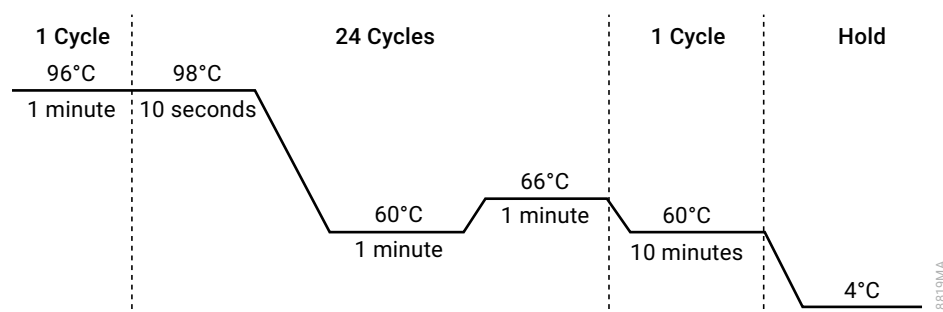

Figure 4. Thermal cycling protocol for the Mastercycler® X50s System.
2. Select and run the protocol provided below and in Figure 4. The total cycling time is approximately 75 minutes.